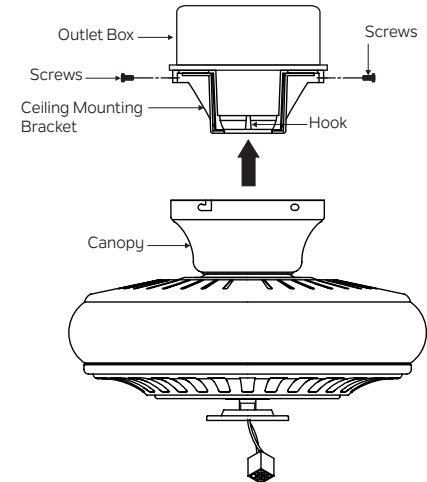

Fig. 14
**Step 3.** Make sure all four mounting screws are tight. (Fig. 14)